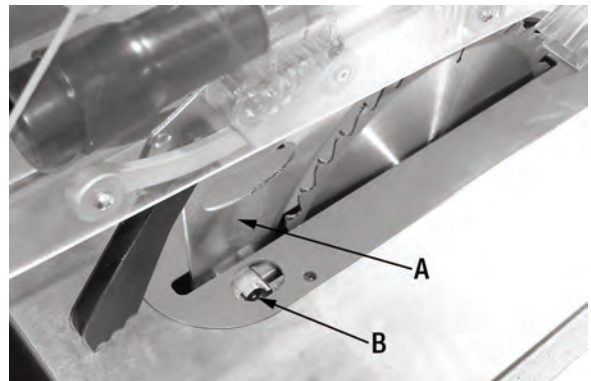

FIGURE 13
Through-cut operations- For all through-cut operations, the blade guard and riving knife assembly (A) Fig.13 must be installed.
Install the blade guard riving knife (A) Fig.13 in between the mounting plates below the table insert. Push riving knife all the way down, then move the locking pin wheel (B) forward and release it, the locking pin must engage and lock the riving knife. Give the riving knife an upward tug to make sure that it is properly locked. The clearance between the blade and the riving knife should be between 1/8" to 5/16" (3-8mm).